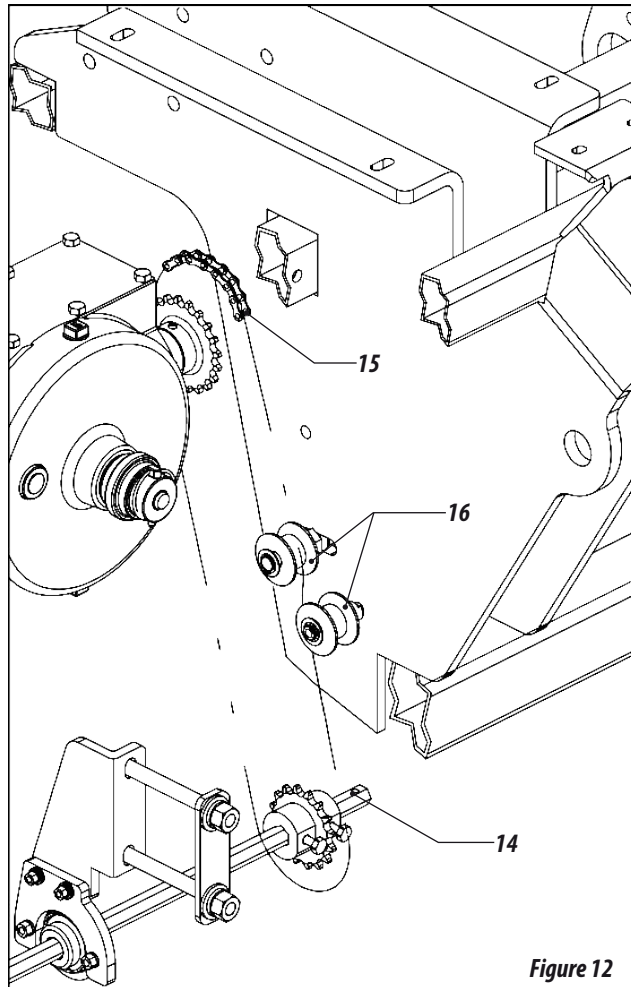

Figure 12
- 10- If there is the need to remove the axis of the seed (14), tighten the drive chain (15) through the turnbuckles (16). **Figure 12.**